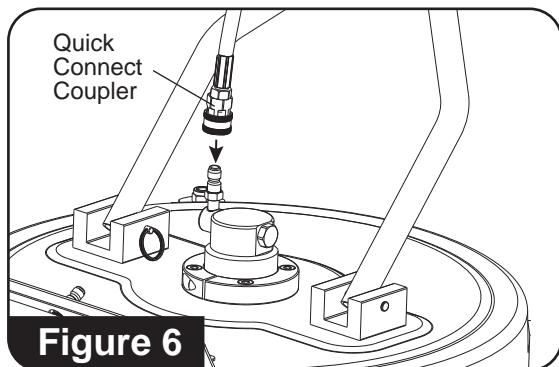

Figure 6
6. Attach the quick connect coupler on the other end of the hose to the inlet plug. (See Figure 6)